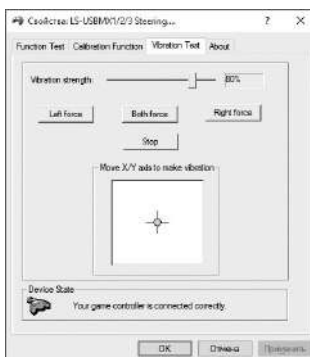

Fig. 11
- In the «Vibration Test» tab, you can check the operation of both vibrators together by pressing the «Both force» button; or separately, by pressing the «Left force» and «Right force» buttons (Fig. 11). To stop the test, press the «Stop» button. Moving the cursor in the row «Vibration strength» we can increase or decrease the force of vibration. To save the settings, click «Apply» or «OK» in the bottom line of this window.
- Work without pedals. The game steering wheel is equipped with jumper switches ⑩, replacing the gas pedal and braking: the left switch performs the braking function, the right one - the gas (acceleration).
- Programming buttons. The switch buttons, shift lever ⑪ and ⑫ buttons, as well as the gas and toroidal pedals, can be assigned the following buttons: ① - ⑧.